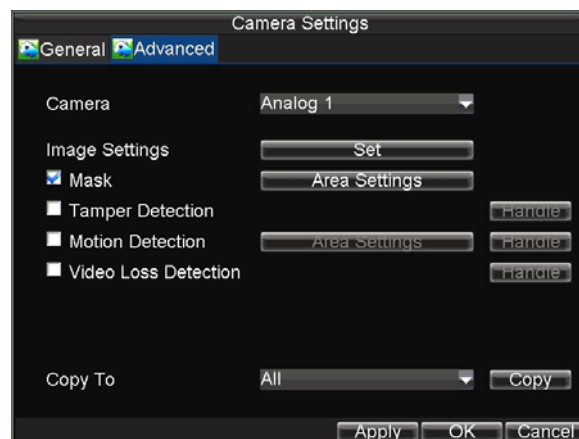

Figure 3. Advanced Camera Settings Menu
4. Adjust the image settings, as shown in Figure 3. Brightness, contrast, saturation and hue can be adjusted in the menu. The adjustments of image settings will affect the live images and the recorded images.
2. Click the **Advanced** tab to enter the Advanced Camera Settings menu, as shown in Figure 3. Select channel for privacy mask settings in **Camera**.